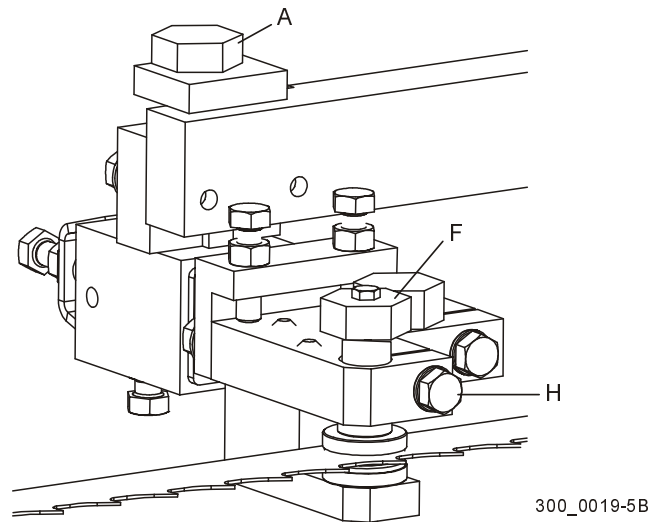

FIG. 7-38
See Figure 7-38. Turn bolt (F) counterclockwise to raise the top guide disk off the blade. Turn bolt (A) counterclockwise to lower the bottom guide disk.